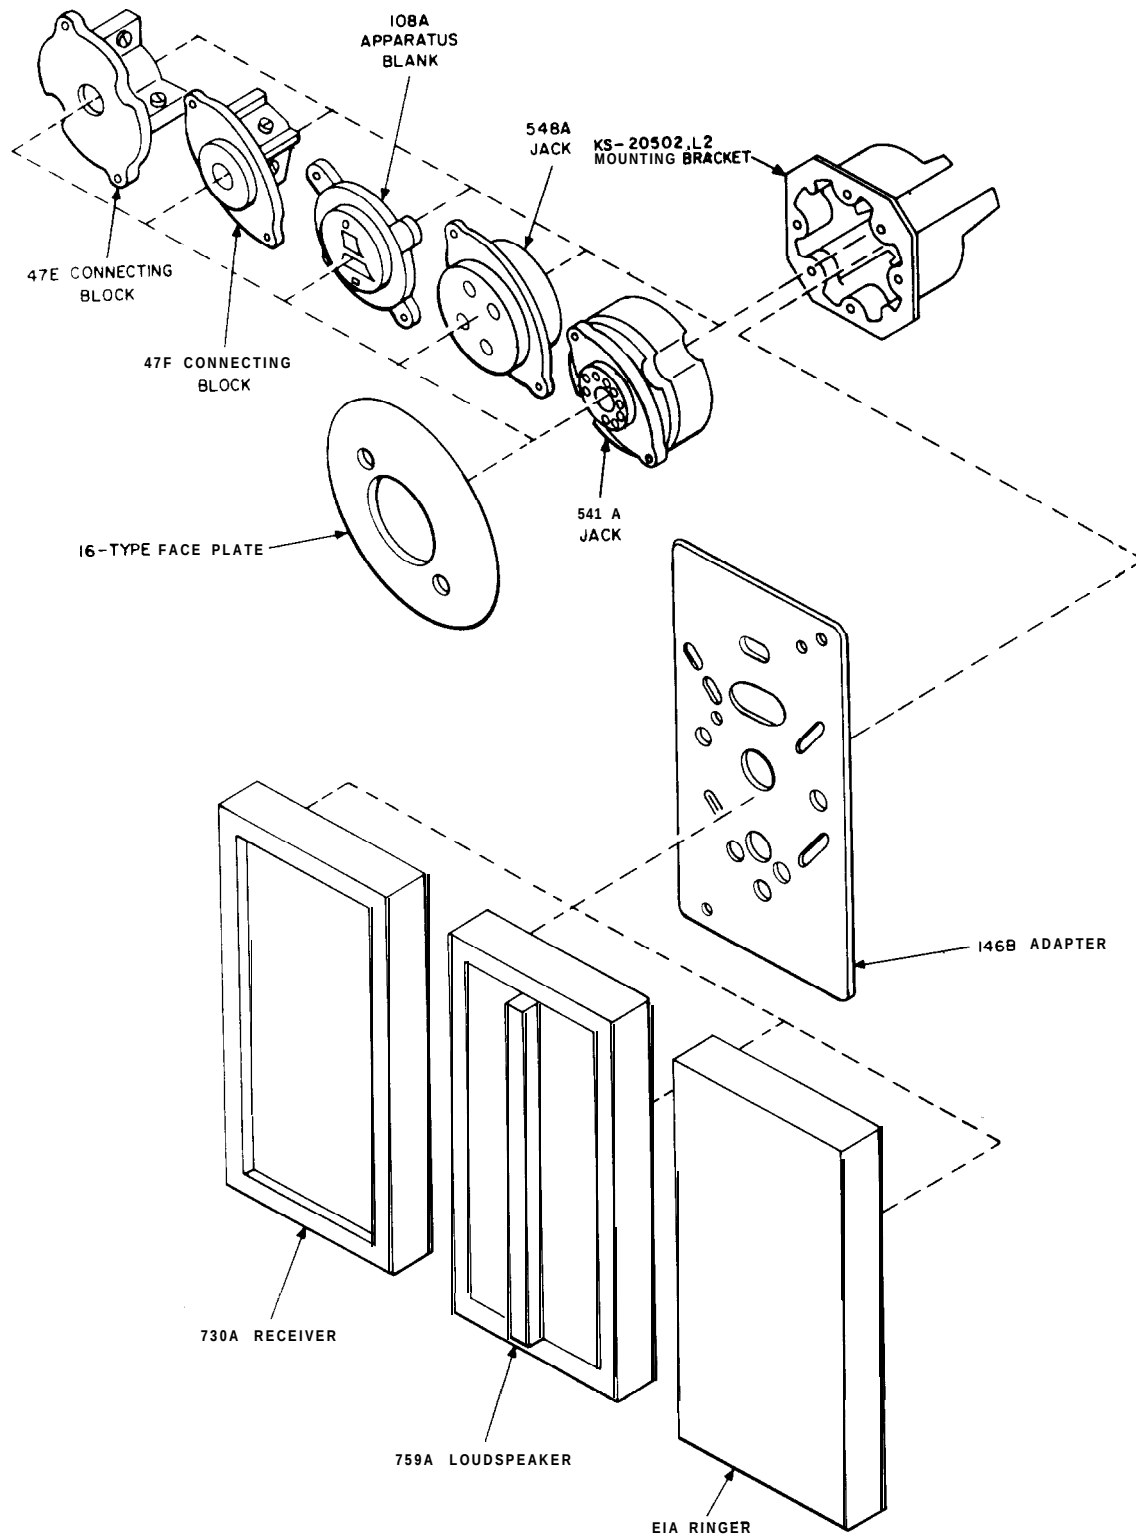

Fig. 3—KS-20502, List 2 Mounting Bracket and Associated Apparatus
3.03 Install jacks and connecting blocks on bracket (Fig. 3) as follows:
3.04 Install associated apparatus (Fig. 3) as follows: